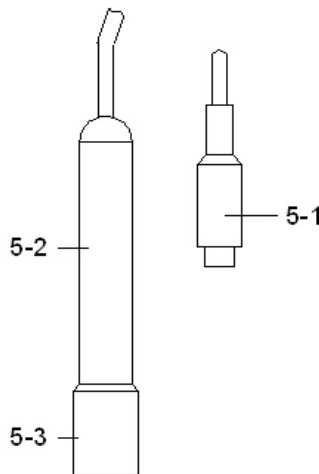

Fig. 3
- 1) Prepare the Conductivity Probe (optional, CDPB-03), install the " Probe Plug " (5-1, Fig. 3) into the " CD Socket " (3-12, Fig. 1).
- 3) Hold the " Probe Handle " (5-2, Fig. 3) by hand and let the " Sensing head " (5-3, Fig. 3) immersed wholly into the measured solution. Shake the probe to let the probe's internal air bubble drift out from the sensing head.
2) Install the " Probe Plug " (5-1, Fig. 3) into the
4) Hold the " Probe Handle " (5-2, Fig. 3) by hand
and let the " Sensing head " (5-3, Fig. 3)